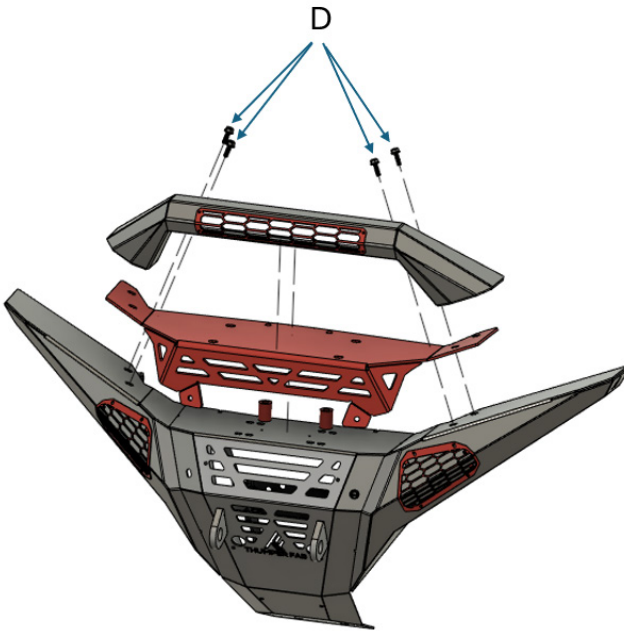

FIG 19 - Mount the Bumper Body to the Upper Mount Brackets using a 13mm Socket. Tighten all remaining hardware evenly
Fasten the bumper body to the upper mount brackets using 4 x M8x25mm flange head bolts (D) using a 13mm socket. Depending on if you selected the bull bar or big winch option, these bolts will go through the selected option and thread into weldnuts on the inside of the wings of the bumper. With these last 4 bolts tight, tighten all remaining hardware evenly (**FIG 19**).